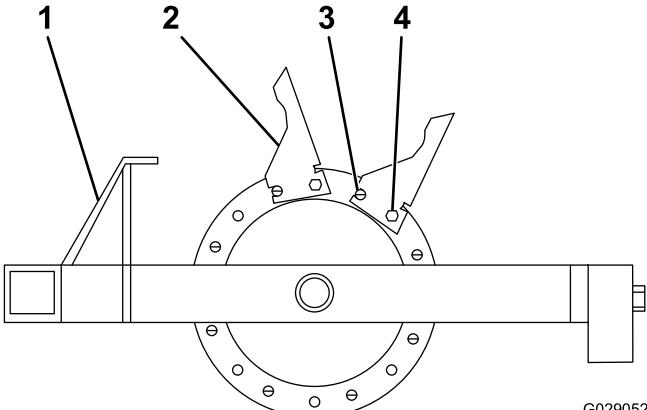

Figure 20
1. Start at the outside casting and install the tines as shown in Figure 20.
- 2. Install all 8 tines on the casting, using a roll pin and bolts (1/2 inch x 1-3/4 inches) and ensuring that the roll pin is in the front position (Figure 20).